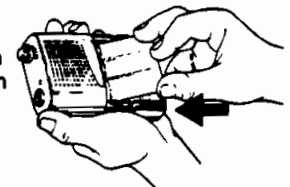

Figure 16.
5. When charging is complete replace the battery pack in the radio as shown in Figure 16.